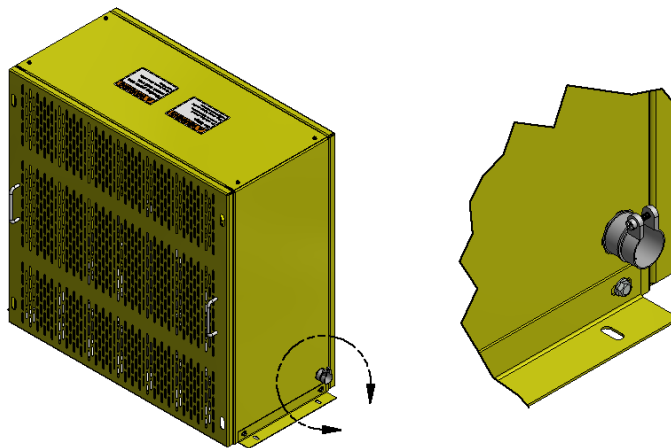

Figure 5: Representative Electrical Routing Location
- Add hole(s) to the end panels (p/n 201-102 or 207-102) or the top panel (p/n 201-103 or 207-103) for conduit run(s) as necessary. See Figure 5 for an example hole location and fitting illustration. **Conduit and fittings are not provided.**